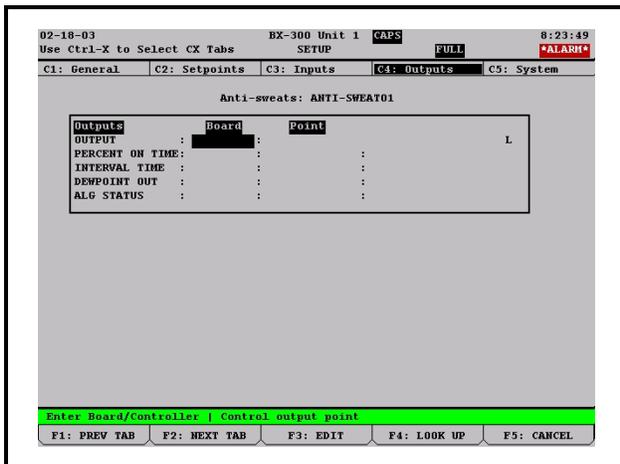

Figure 3-5 - Anti-Sweat Outputs Setup Screen
2. Press **F2** (NEXT TAB) to advance to the Outputs Setup screen (*Figure 3-5*).